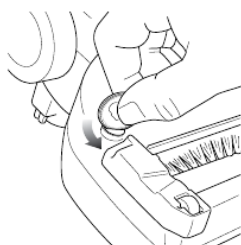
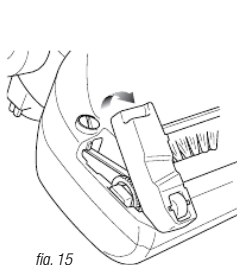

fig. 14
fig. 15
- 1 For easier cleaning, the brush roll can be removed from the nozzle. Using a coin, turn the dial next to the brush roll access door to the unlock position. (fig. 14) Remove the brush roll access door. (fig. 15)